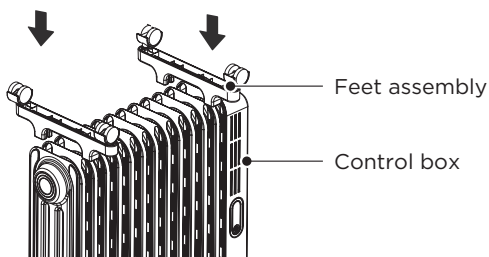
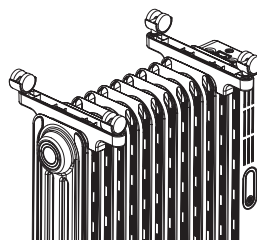

Figure 2
Figure 3
- 2 As shown in Figure 2 and figure 3, first turn the heater body upside down with the bottom facing up, align the mounting groove of the feet assembly after installing the wheel and clamp it on the second heat sink; Another set of feet assembly mounting groove is aligned and clamped on the penultimate heat sink.